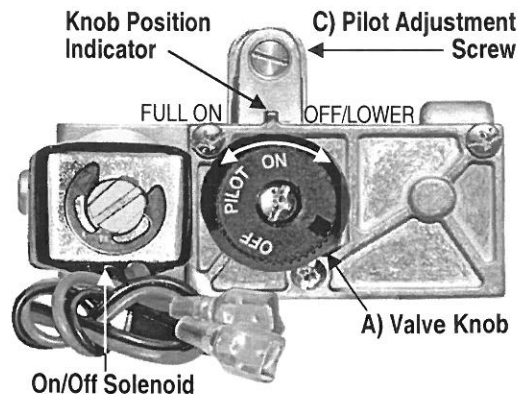

FIGURE 14
2. Slide switch on the **Receiver** (Figure 14) to “REMOTE” position.